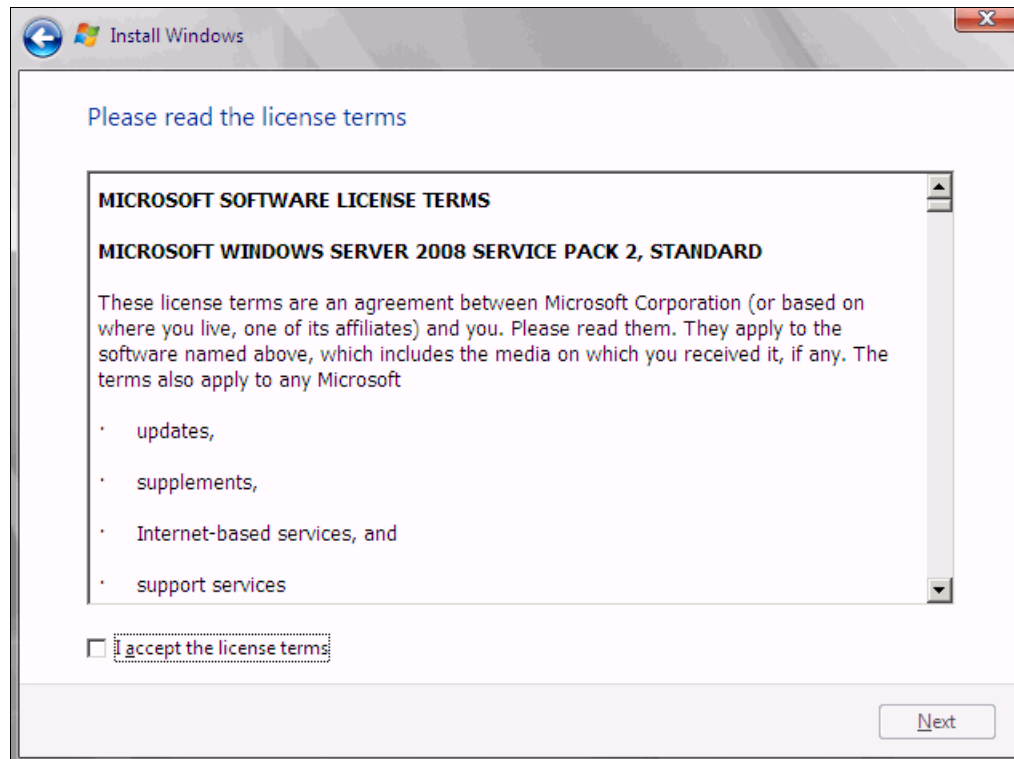

Figure 9-143 License agreement window
12. Read the license agreement, select **I accept the license terms**, and click **Next** (Figure 9-143).